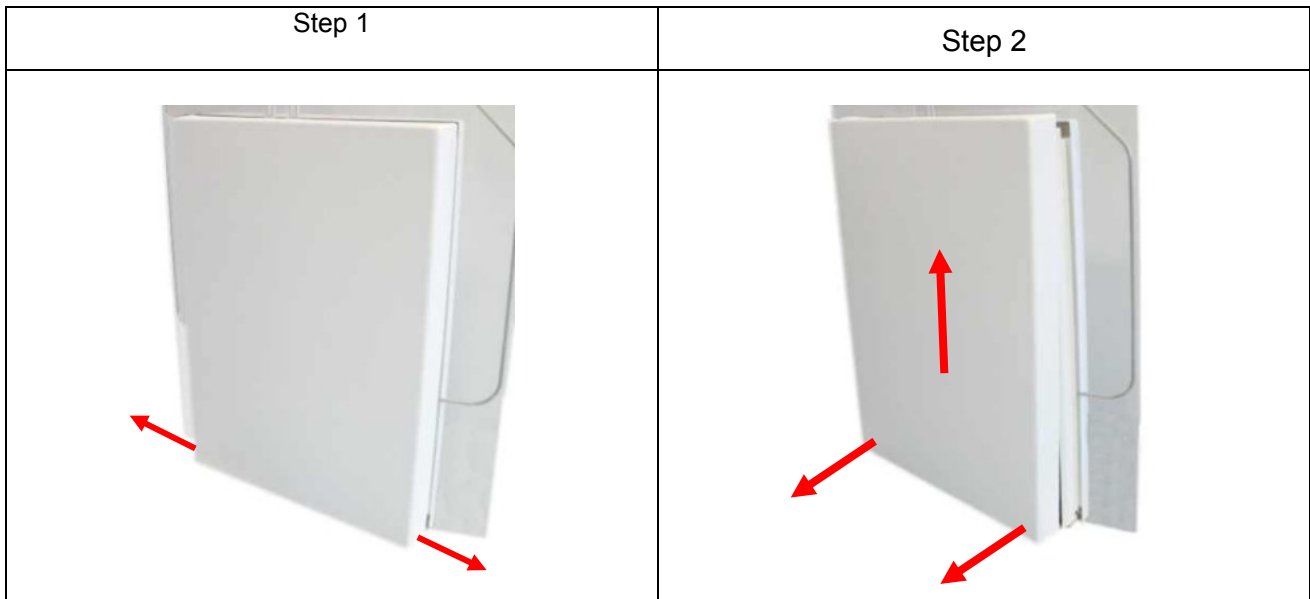

Fig. 4: Opening the antenna base
2. Afterwards, the antenna must be carefully placed on the floor again. Now the two fastening screws (hexagon socket AF 2,5) must be removed from the antenna base cover. Carefully remove the cover from the antenna base by sliding it upwards (Fig. 4).